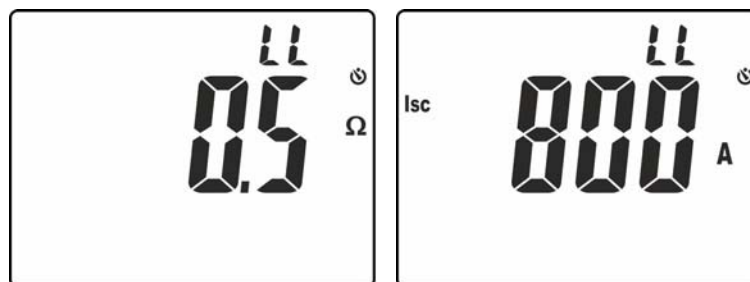

Fig. 28: Results of Loop L-L impedance measurement
12. The screen in Fig. 28 – left side, shows the value of Loop L-L impedance. Press keys $\blacktriangledown/\text{⏏}$ or $\blacktriangle$ to display the value of the assumed short-circuit current **Isc** (see § 9.3)